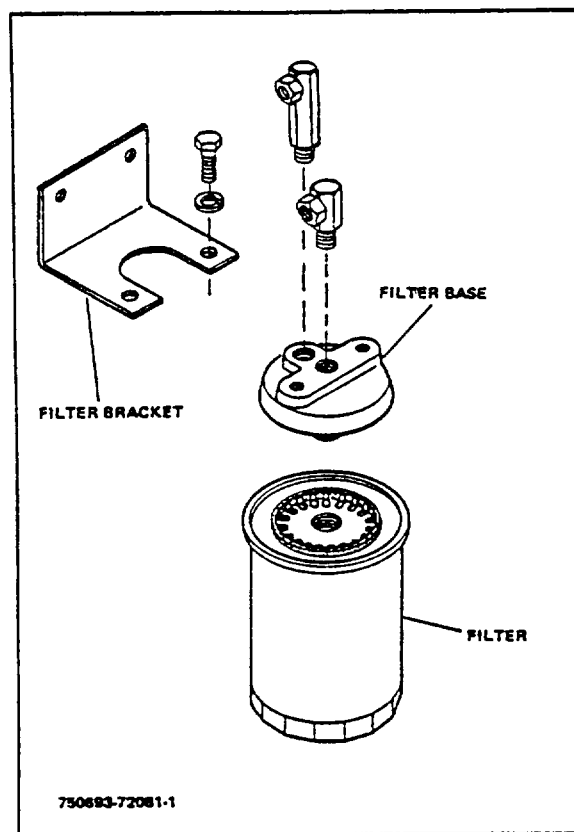

Figure 5-1. Throw-Away Filter (Typical)
3. Using an oil filter removing tool, unscrew the filter (refer to Figure 5-1) and discard.